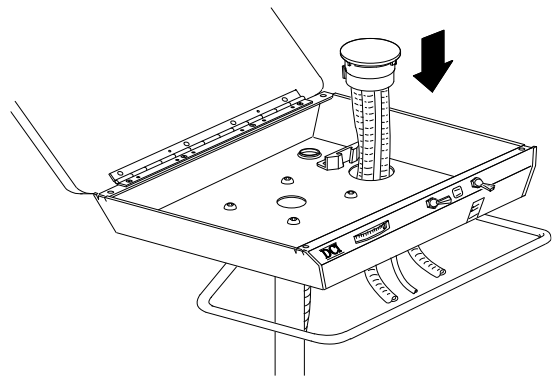

Figure 3
- a. Route the saliva ejector, the two HVE's, and the drain tube through the 2" diameter hole in the base of the control unit (*Figure 3*).
- b. Press the bracket on the vacuum canister into the mounting bracket next to the 2" diameter hole. The canister fits over the hole (*Figure 3*).